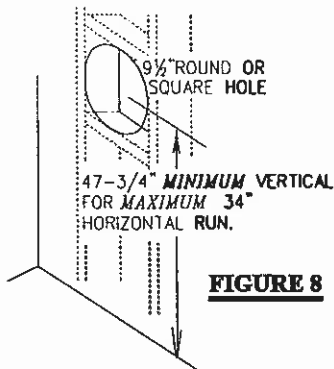

FIGURE 8
1. Cut or frame a hole in an exterior wall with a minimum round or square opening of 9½ inches. FIGURE 8. Secure the firestop spacer over the opening to the interior wall.